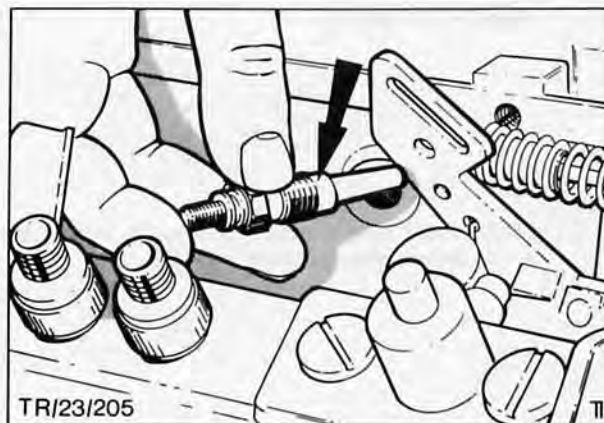

Fig. 83. Glow plug removal
11. Using sockets disconnect and remove four glow plugs from cylinder head, Fig. 83.